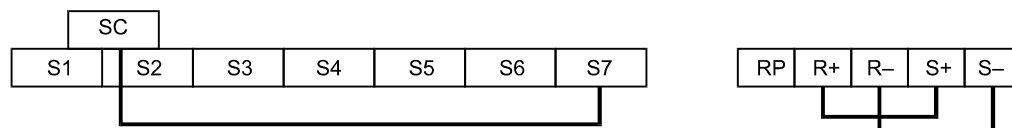

Fig 6.54 Communication Terminals Wiring for Self-Diagnosis
3. Perform the wiring according to Fig 6.54.